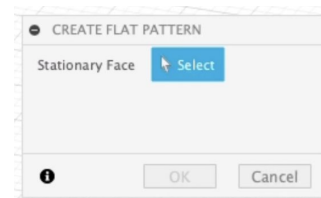

Figure 1.7
2. Choose a stationary face - the surface around which the bends unfold (see Figure 1.7).